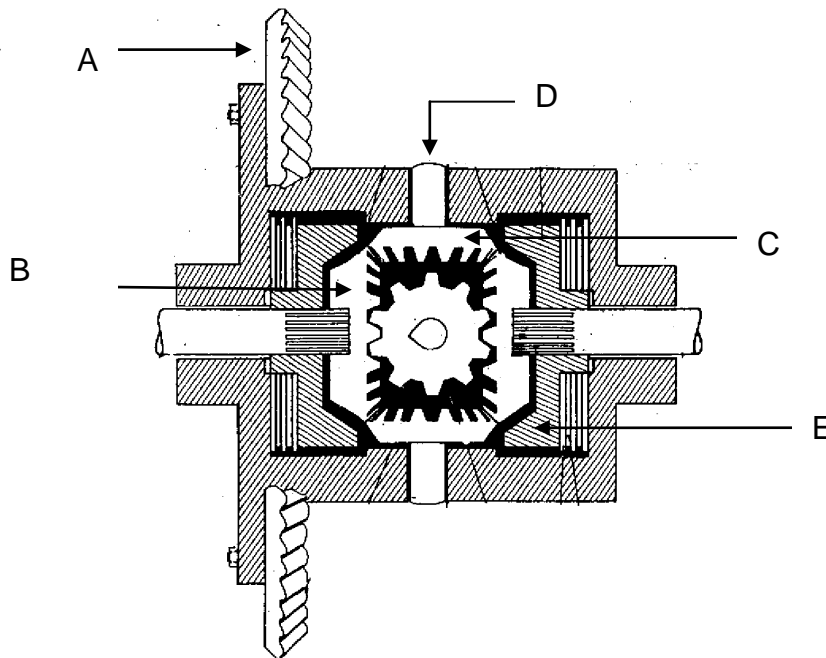

FIGURE 2
3.2 FIGURE 2 shows a sectional view of a limited slip differential.